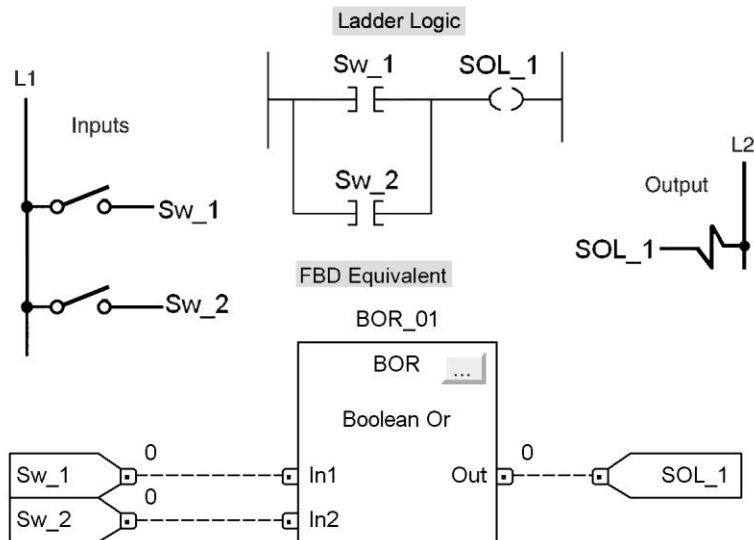

Figure 15-60 OR logic program for assignment 2.
2) The programs of Figure 15-60 show the ladder logic and the FBD equivalent for a two-input OR logic. Prepare a function block program that will simulate its operation. Utilize field devices found on your ControlLogix installation. Enter the program into the controller, and verify its operation.